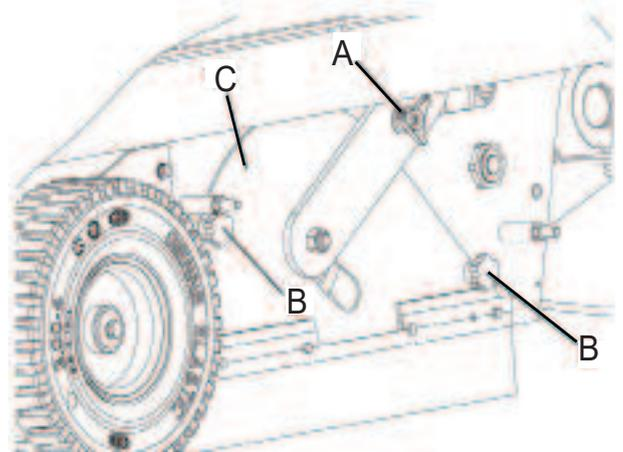

Figure3
- 1) Drive the machine on a level floor and release the pedal (2) and stop the machine.
- 2) Turn the ignition key (71) to "0"
- 3) Unscrew the knobs (34) and remove the right cover (33).
- 4) Loosen the knob (A, Fig. 3).
- 5) Unscrew the knobs (B, Fig. 3) and remove the brush compartment cover (C).
- 10) Install the broom compartment cover (C, Fig. 3) and tighten the knobs (B) and (A).
- 11) Install the right cover (33), then tighten the knobs (34).